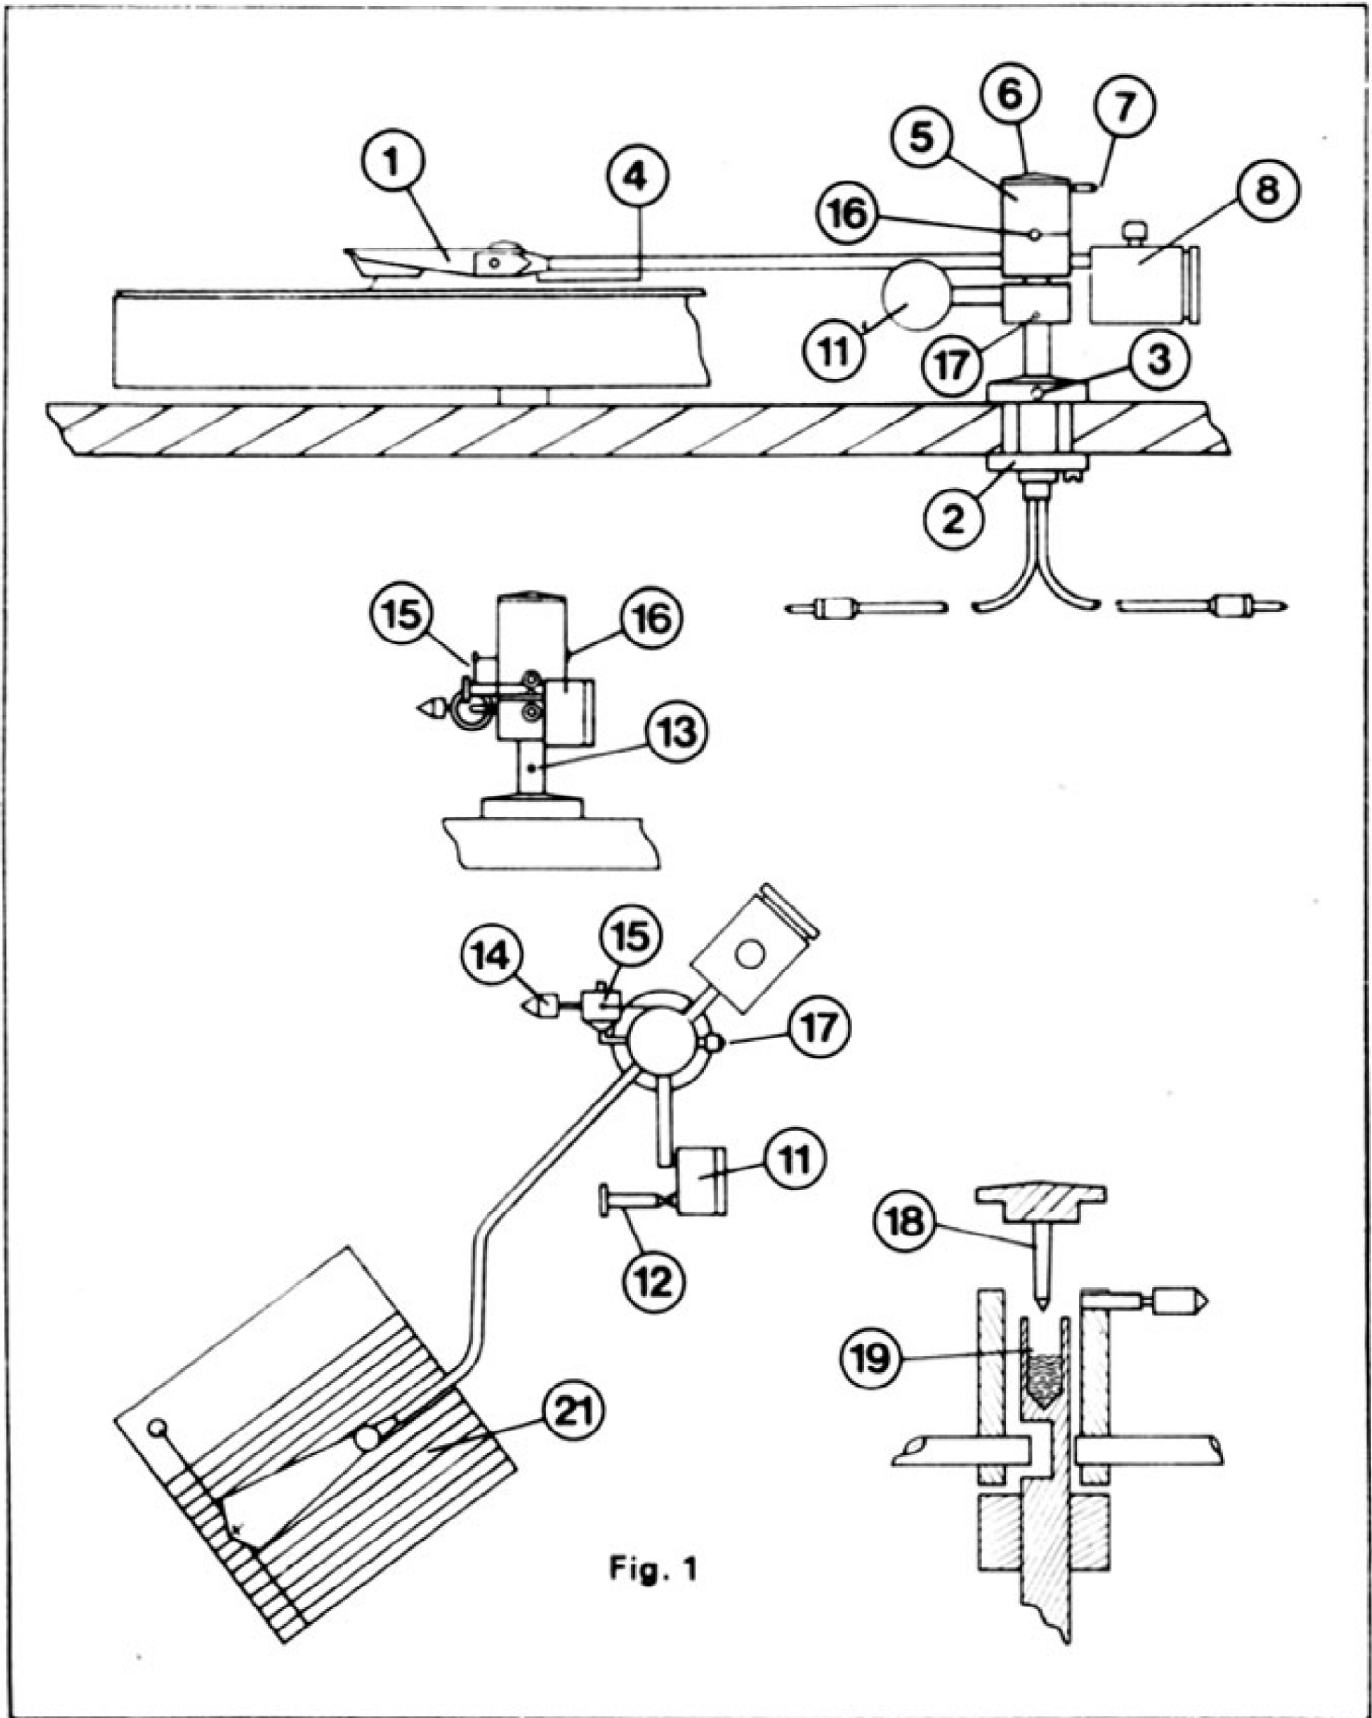

Fig. 1
- 1** Releasing the retaining nut, the headshell should be removed from the arm holding cone, fig. 1 (4), carefully in one hand, using a side-to-side and easing movement, with other hand. Extreme care must be exercised as damage to the internal wiring could result, if force is used. Remove all transit rubber bands.
- 2** Release thumbscrew, fig. 1 (7), and remove helmet cap and pivot assembly. From the small tube supplied, fill the well of the support tube to approximately half way, fig. 1 (19). Refit cap and pivot securely.
- 3** The bias assembly is positioned by using cotton thread tied to the split pin and following a path around the back of the helmet to the small slotted screw. The angle of the bias weight should be set as in fig. 1 (15) with the arm in a parked position.
- 8** Place the template over the centre spindle of turntable platter, and, after slackening thumbscrew, fig. 1 (17), move arm across and place stylus tip on point indicated. The lines of the template and the headshell must run parallel to each other to ensure minimum tracking error. To correct any misalignment, slacken, with the aid of a suitable piece of $\frac{1}{8}$ in. (3 mm) rod or small screwdriver, the lower base nut using one of the holes for this purpose. The arm can now be moved until the correct alignment is achieved. Relock the arm, ensuring that the centre dot mark, fig. 1 (13), on the support tube is facing the front of deck. At this stage the arm height can be set, using the lock screw, fig. 1 (3), to ensure that the arm tube runs parallel to record, when in the playing position.
- 9** Should the need arise, there is provision to make lateral adjustments to the headshell assembly. The small grub screw, fig. 1 (4), underneath the aluminium cone can be slackened and the assembly moved until the stylus plays in an upright position. This adjustment should not be made unless necessary, i.e. helmet and stylus must both be in vertical modes.
The whole lifting and cueing assembly, swings around the support tube, and a degree of damping is provided by applying the required tension to the thumbscrew, fig. 1(17).
Key to Fig. 1